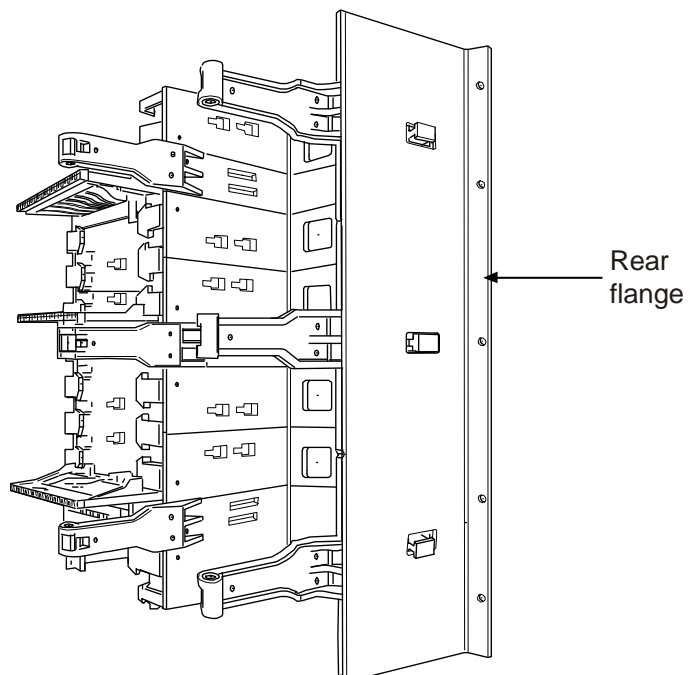

Figure 1. Side Panel in Upright Position
1. Remove one side panel from its packaging. Orient the side panel in relation to the vertical trough and wall surface as shown in Figure 1 for mounting on the right side.